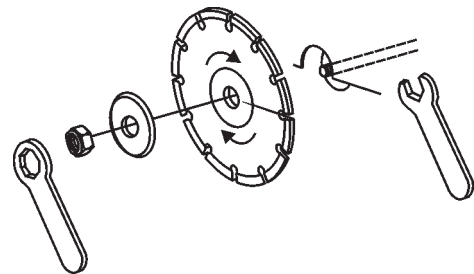

Figure 13. Tool (Blade) Locking Wrenches
5. Use the provided blade nut and spindle locking wrenches to remove and install the blade. (Figure 13)